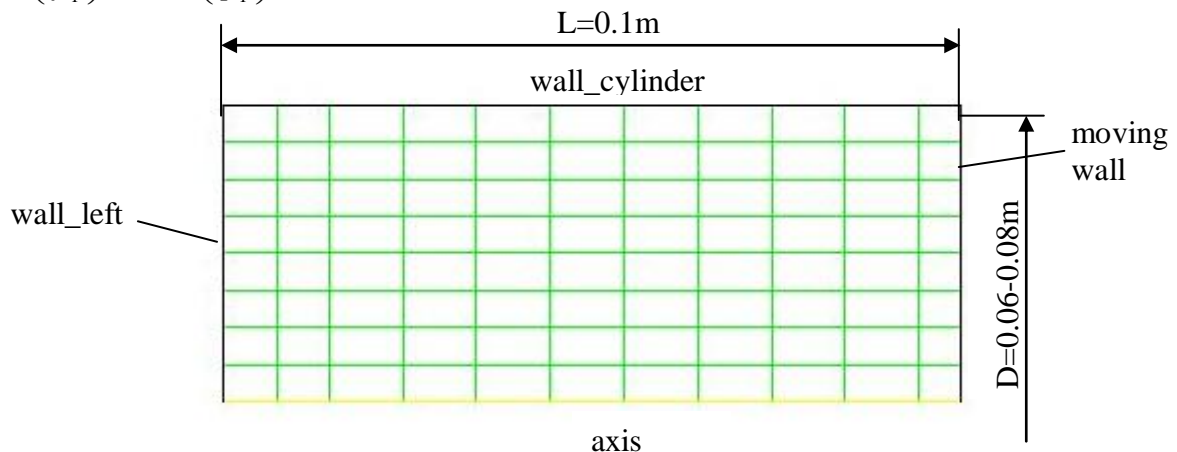

Fig.1. Computational mesh.
The computational mesh is shown in Fig.1. The computational domain should be divided into the equidistant cells.
- **Piston Stroke**: 0.08 m (here the distance should be less than 0.1, see Fig 1)